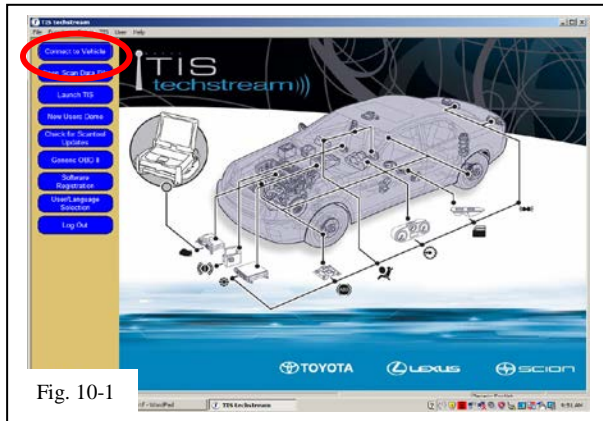

Fig. 10-1
- Connect the Techstream to DLC3, as in Fig. 10-1.
(Fig. 10-1)